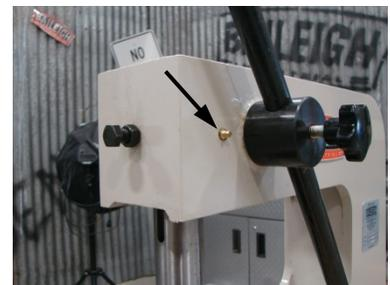

figure 5
- Keep the ram shaft lubricated using the grease fittings as indicated in fig. 5 & 6.